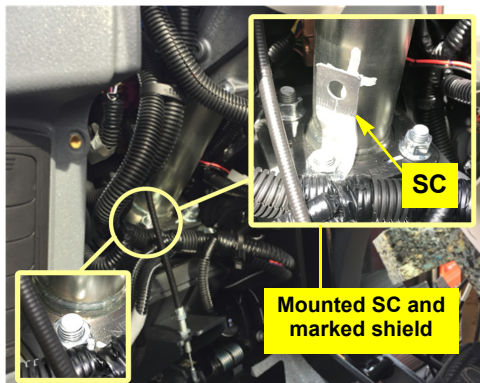

Figure 3a: Determine and mark drilling point
- a. Remove the near left nut from the steering shaft shield flange bolt (Figure 3a - circled main and left inset). Mount SC on the bolt, squarely aligned with the shield (Figure 3a, right inset). Using SC as a template, mark the shield.